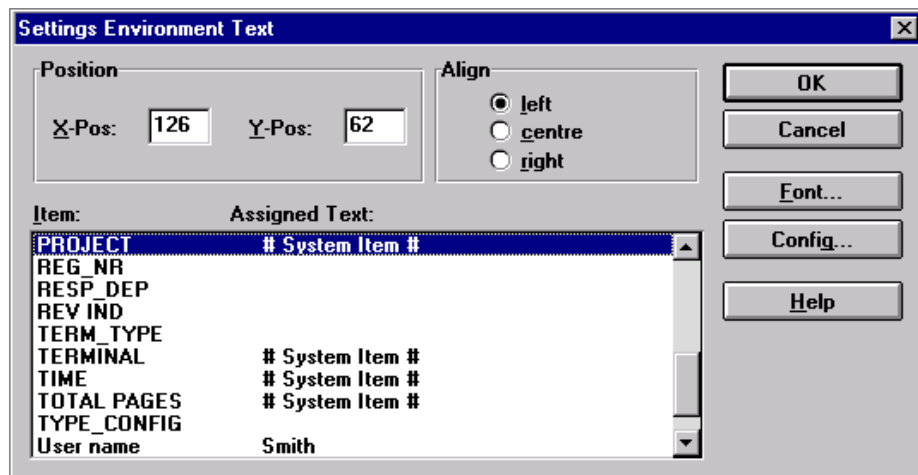

Fig. 51 The Settings Environment Text dialog box with the new item.
- 5 Select <OK>, and the Settings Environment Text appears and the new item is displayed in the list box. Fig. 51